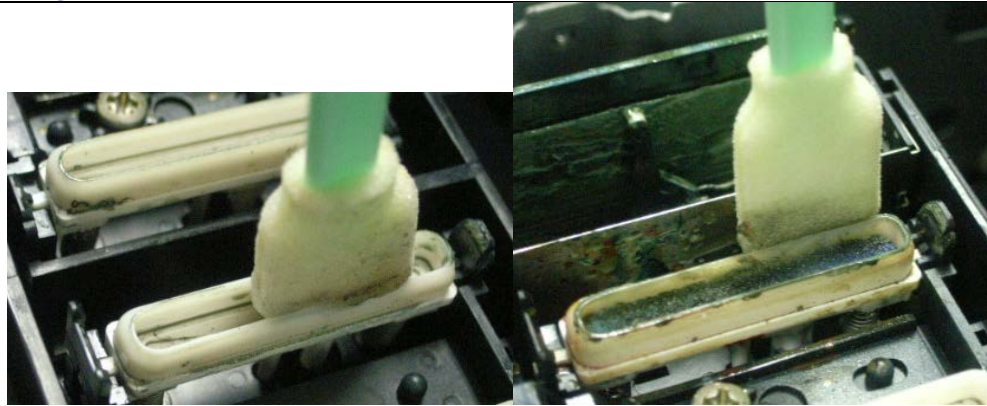

Fig. 3
Step 4	Fig. 3 shows an example of how to apply the Cleaning Applicator. Lightly moisten the cleaning applicator with only Ricoh cleaning liquid type 1 if necessary.